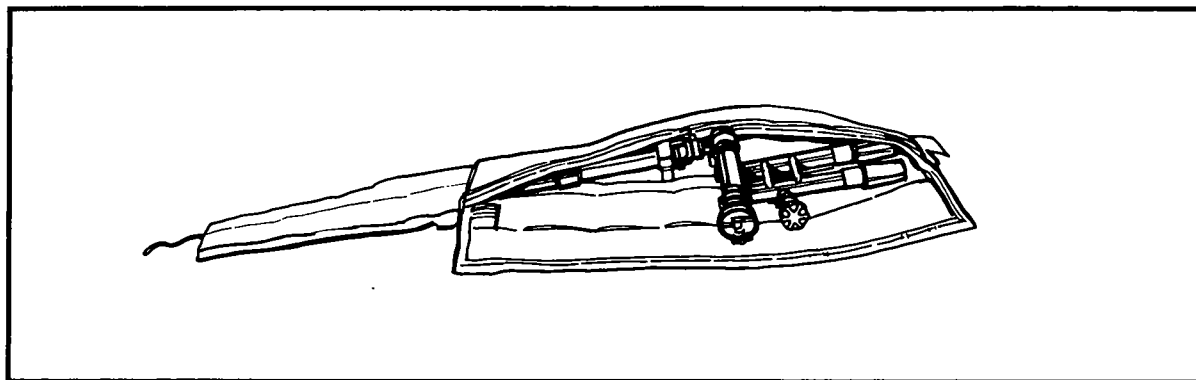

Figure 6-22. Bipod with case.
b. **Assistant Gunner.** Place the bipod assembly inside the case (Figures 6-22 and 6-23), ensuring that the traversing mechanism is in the middle of the